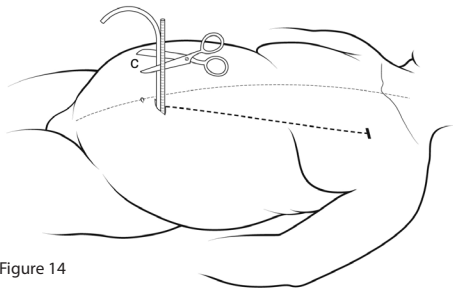

Figure 14
6. Insert the Measuring Rod (located in the separate sterile pouch along with the Tunneling Tool) beginning with the tip marking 1 cm, into the primary incision next to the Lower Catheter, perpendicular to the fascia and parallel to the catheter. Advance the Measuring Rod until the tip meets the rectus fascia. See Figure 14.
7. Hold the external limb of the Lower Catheter next to, and parallel to, the Measuring Rod. Using the centimeter markings on the Measuring Rod, cut the Lower Catheter at the C length above the level of the fascia (Figure 14). Make a single, straight, perpendicular cut of the tubing with suture scissors.